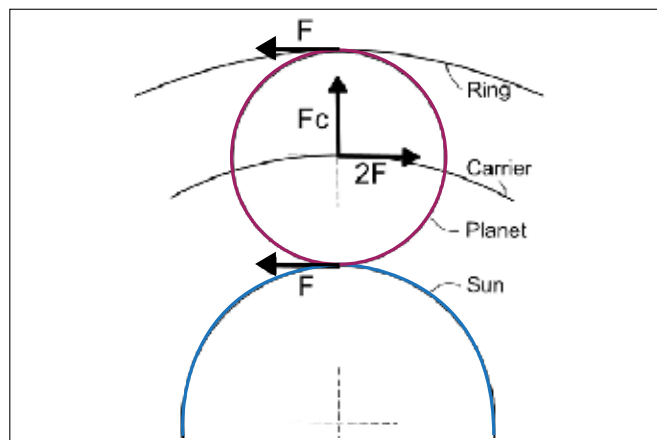
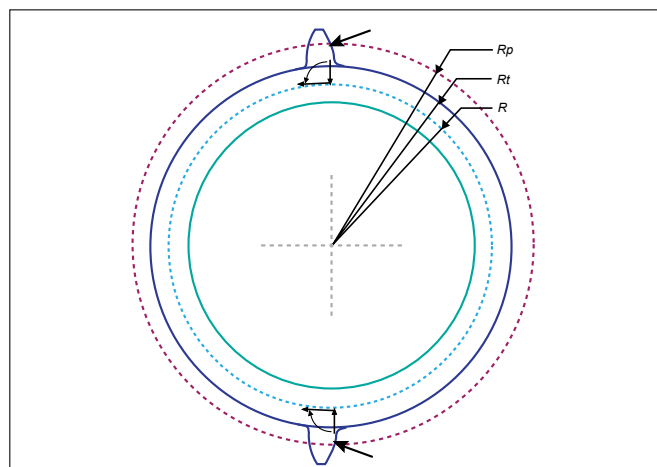
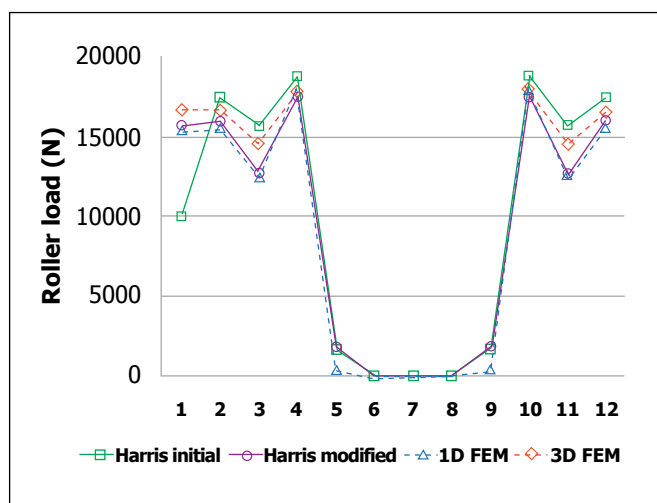
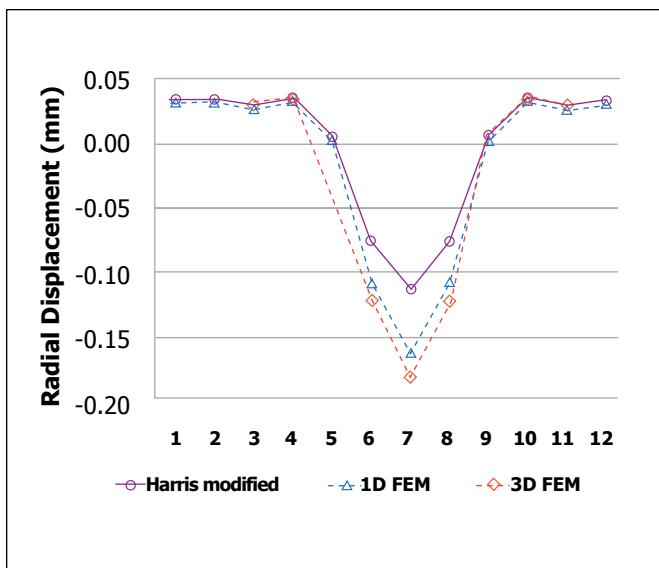

Figure 1—Loads acting on a planet.
Figure 2—Simplification of mesh loads.
Figure 7—Roller load distribution for several models.
Figure 8—Ring radial displacement for several models.
2. In epicyclic gear sets, the carrier is rotating while the ring is stationary (Fig. 1). This renders the planet bearings' kinematics rather complex, with the inner ring rotating around the gearbox main axis while the outer ring is rotating around the inner ring (planet carrier axle). The effect of the centrifugal loads induced by the outer ring weight could influence the roller load distribution, since the ratio of centrifugal loads to accumulated radial gear loads can be as high as 20% for typical turboprop applications.
Jones/Harris analytical model description. In the Jones/Harris approach, the outer ring flexibility is modeled as a thin elastic ring with a mean radius R and a section moment of inertia I (Fig. 1). The effect of gear teeth on ring stiffness is ignored. The loads acting on the bearing outer ring are simplified as two equal and diametrically opposed loads representing, respectively, sun planet and ring gear planet meshes (Fig. 2). The mesh loads are assumed to act along the line of action and on the pitch radius R_p .
Figure 7 displays the roller loads for the initial Harris model, the 1-D and 3-D FEM, and the modified Harris model according to Equation 5. The abscissa represents the roller number according to convention given in Figure 2. The plots show good correlation between the 1-D FEM and the modified Harris model for all rollers, whereas the initial Harris model predicts a significantly lower contact load for Roller 1 and higher loads for the other rollers. This result confirms that the missing term in the Jones/Harris model has a strong influence on the roller load distribution and must be taken into account.
Finally, the plot in Figure 7 shows that the roller load distribution given by the 3-D FEM is similar to that of the 1-D FEM and the modified Harris model. In this case, the contact loads are greater, but are distributed on a smaller number of rollers since Rollers 5 and 9 are not loaded for
Figure 8 illustrates the ring radial displacement for the modified analytical model and the 1-D and 3-D FEMs. The FEM results appear to be in agreement, while the predicted displacements differ significantly from the analytical model. The area of greatest difference corresponds to the unloaded zone of the bearing (Rollers 6–8)—which explains why there is no impact on the load distribution, as observed in Figure 7.
The results from Figures 7–10 validate the use of a simplified analytical model in the prediction of roller load distribution. This is an important result since the analytical models can be fast to run and enable performance of parametric studies in a short time, which is not the case with 1-D or 3-D FEMs.